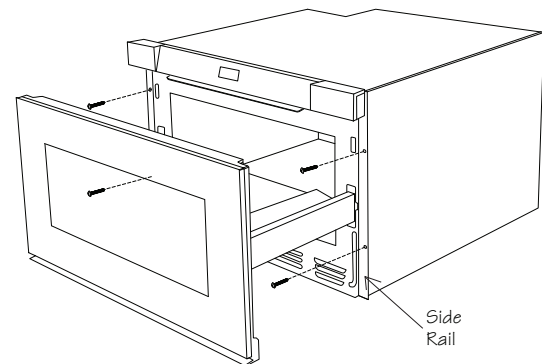

Figure 10
3. Slide the drawer all the way until the mounting flange is flush with the face of the cabinet. See Figure 10.
4. Open the drawer. Using the 4 holes on the drawer as a template, pre-drill the cabinet using a $\frac{1}{16}$ " bit. See Figure 10.